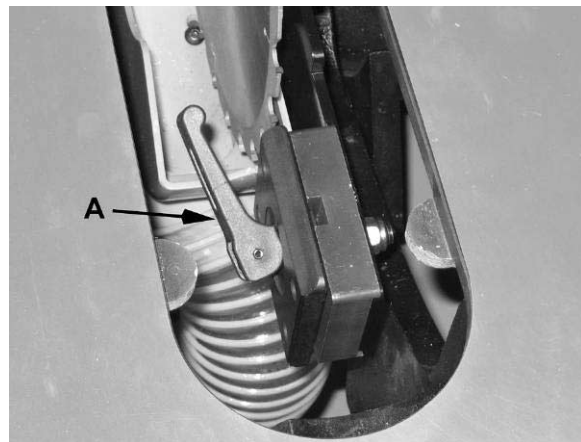
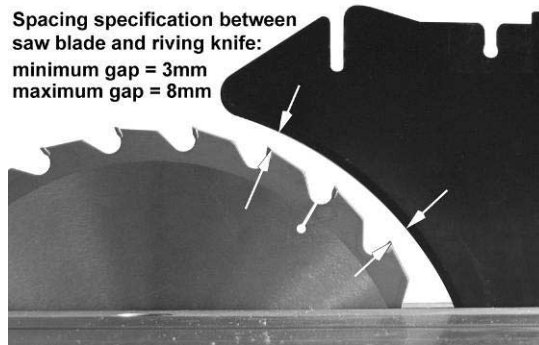

Figure 18
Figure 20
4. Loosen the *lock handle* (A, Fig. 18) and remove the riving knife, making a note as to which direction the riving knife needs to be moved to align it with the saw blade.
Adjust any number of setscrews required to bring the riving knife in alignment with the saw blade. Then reinsert the riving knife, secure by tightening the *lock handle* (A, Fig. 18) and check the alignment per step 2.
**Note:** Position the lock handle *towards* the saw blade as shown in Figure 18. This will avoid the table insert from being lifted when the blade is raised with the handwheel.
The gap between the saw blade and riving knife must be between 3 and 8mm (Figure 20). If adjustment is needed, note whether the blade to knife gap needs to be increased or decreased. Then adjust as follows:
3. Slide the *fixed clamp block* (F) toward or away from the saw blade as required.
4. Tighten the *socket head button screws* (E).
5. Reinsert the *ripping knife*; tighten the *lock handle* (A, Fig. 18) and check that the saw blade/knife gap is between 3 - 8mm (Figure 20).